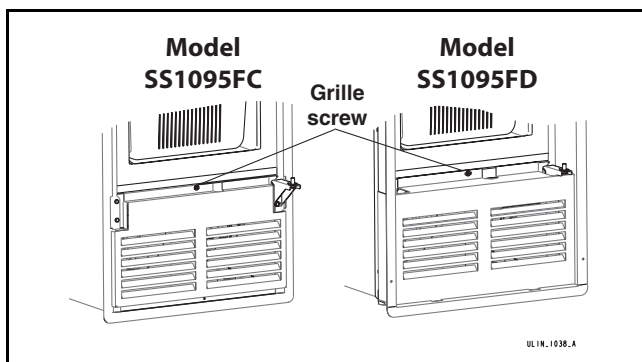

Figure 15
1. Remove grille (one screw) (**Figure 15**).